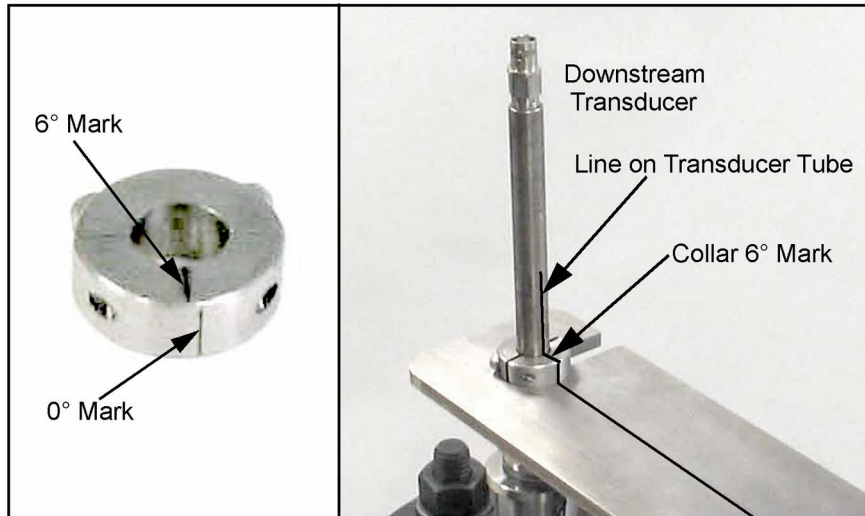

Figure 11: Installing the Locking Collar
4. Slide the locking collar over the downstream transducer to the cavity on top of the guide plate. Align the 6° mark on the top of the collar with the line on the transducer (see Figure 11 below). Then, tighten the collar set screws until the collar is secured to the transducer.